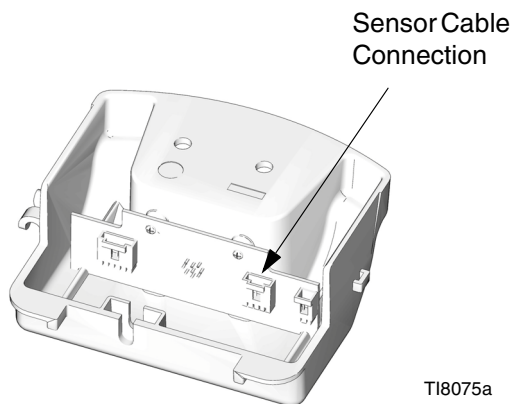

FIG. 15. Sensor Cable Connection
- a. **DataTrak Models:** Remove the two screws (135). Carefully remove the DataTrak module (131), see page 14. Disconnect the runaway solenoid and sensor cables from the module board. Remove the two screws (134) and carefully slide the housing (132) off the air valve.
- b. **Linear Sensor Models:** Remove the screws (134) and carefully slide the housing (132) off the air valve. Disconnect the sensor cable from the circuit board. See FIG. 15 on page 27.
10. Reinstall the muffler (15). Fully tighten the screws (43) against the muffler.
11. Reinstall the outer valve cover (47).
- a. **DataTrak Models:** Carefully slide the housing (132) onto the air valve. Thread the screws (134) in by hand, then torque to 100 in-lb (11.3 N•m). Reattach the solenoid and sensor cables to the DataTrak module (131), see page 14. Carefully slide the module back into the housing (132). Reinstall the two screws (135).
- b. **Linear Sensor Models:** Reconnect the sensor cable to the circuit board. See FIG. 15, page 27. Carefully slide the housing (132) onto the air valve. Thread the screws (134) in by hand, then torque to 100 in-lb (11.3 N•m).
13. Reinstall the top cover (30).
5. Remove the screws (134) and carefully slide the housing (132) off the air valve. Disconnect the sensor cable from the circuit board. See FIG. 15.
6. Thread the cable back through the hole (H) in the side of the adapter (33) and extend it out the top of the adapter.
7. Unscrew the adapter (33) and sensor (35). Lift the sensor straight up out of the air motor.
8. Apply thread adhesive to the new sensor housing. Screw the sensor (35) into the top cap (1). Torque to 30-36 ft-lb (40.6-48.8 N•m).
9. Apply thread adhesive to the adapter (33). Extend the sensor cable straight up out the top of the adapter, then screw the adapter into the top cap (1). Torque to 30-36 ft-lb (40.6-48.8 N•m).
10. Thread the sensor cable through the hole (H) in the side of the adapter, and reconnect it to the circuit board. See FIG. 15, page 27. Carefully slide the housing (132) onto the air valve. Thread the screws (134) in by hand, then torque to 100 in-lb (11.3 N•m).
11. Apply thread adhesive to the lift ring (21). Hold the adapter (33) with a wrench to keep it from turning, and torque the lift ring to 30-36 ft-lb (40.6-48.8 N•m).
12. Reinstall the top cover (30).